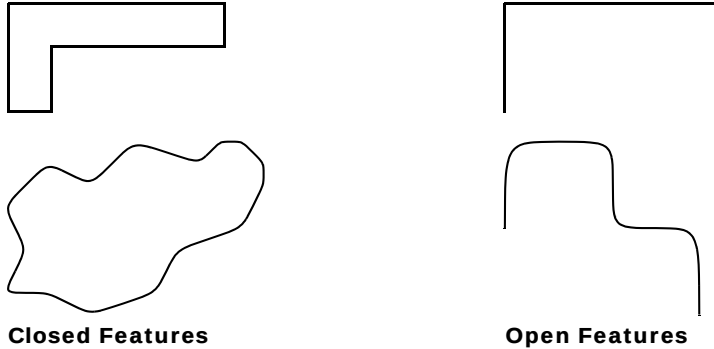

Figure 142 Features Rich in Curvature Variations
- When possible, it is preferable to use features that individually define a complete Scale/Rotation/Translation transform. Examples of such features are shown in Figure 142.